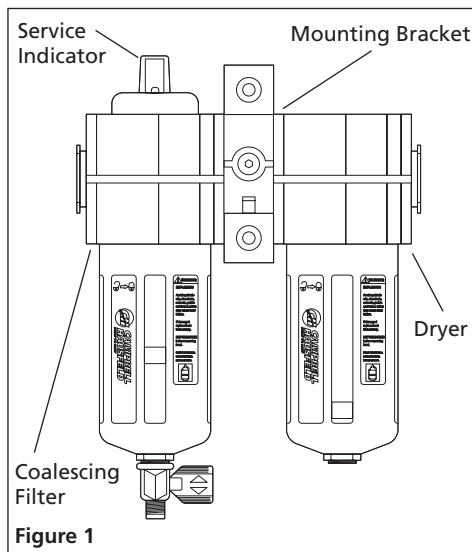

Figure 1
4. Coalescing Filter Replacement - The service indicator on the coalescing filter (shown in Figure 1) signals when the filter element needs to be replaced. When the indicator turns red the filter element must be replaced. Use replacement filter element PA2087.